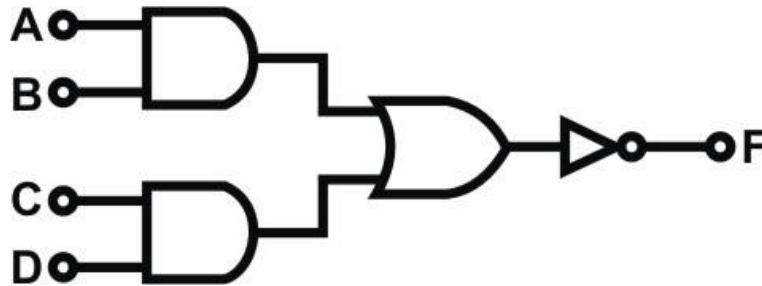

Figure 1.19: AOI gate.
AND-OR-INVERTER (AOI) gates consist of two AND gates, one OR gate, and one INVERTER (NOT) gate. The symbol of an AOI gate is shown in Figure 1.19. The Boolean expression for the output F is $F = (AB + CD)'$ (1)